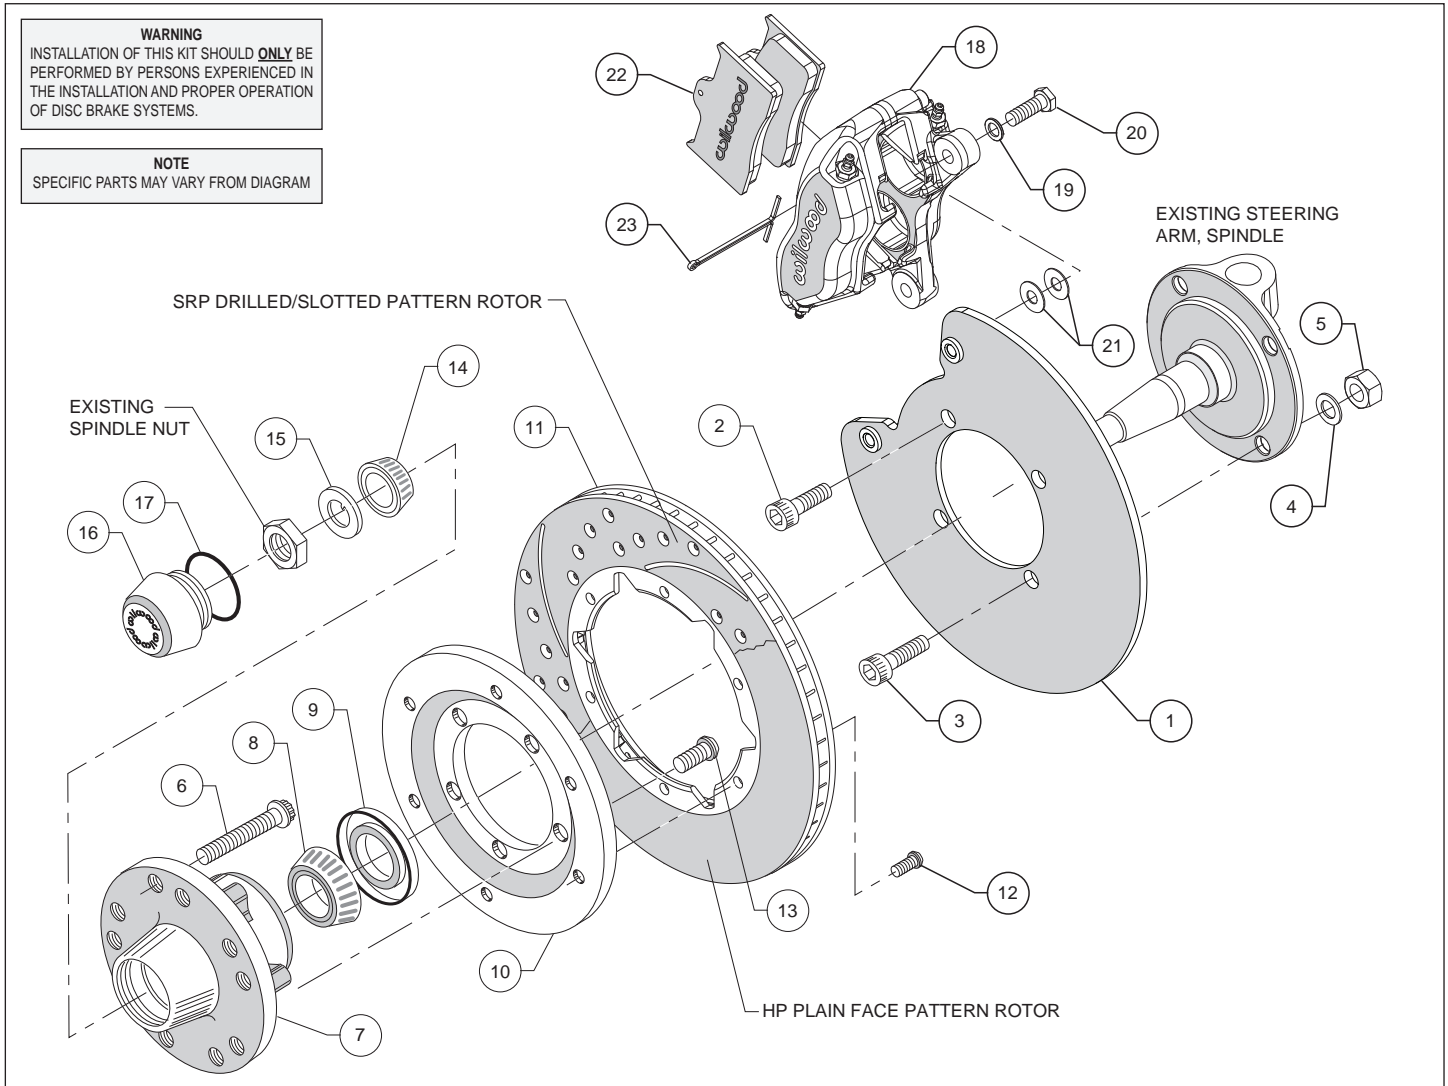
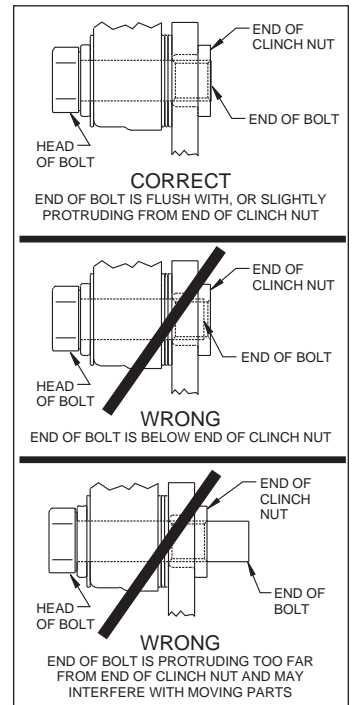

Figure 1. Typical Installation Configuration
Figure 3. Clinch Nut Engagement Diagram
Assembly Instructions (numbers in parenthesis refer to the parts list, on the preceding page and Figure 1): **CAUTION:** All mounting bolts must fully engage clinch nuts. Be sure to check that all bolts are either flush or protruding through flanged side of clinch nut after shimming, Figure 3.
- Align caliper mounting bracket/dust plate (1) with the corresponding holes, to the face of the spindle. Attach using bolts (2 and 3), washers (4), and nuts (5), as shown in Figure 1 and Photo 1. Temporarily tighten the mounting bolts. Ensure that the flanged heads of the clinch nuts in the bracket are facing outboard, Photo 1. **NOTE:** The bracket must fit squarely against the mounting points on the spindle. Inspect for interference from casting irregularities, machining ridges, burrs, etc. Remove bolts one at a time, apply red *Loctite*® 271 to threads and torque to 77 ft-lbs.
- Orient the rotor (11) and the rotor adapter (10) as shown in Figure 1 and Photo 4. Attach the rotor to the adapter using bolts (12). Using an alternating sequence, apply red *Loctite*® 271 to the threads, and torque to 25 ft-lb.
- Mount the adapter/rotor assembly (10/11) to the hub (7) using bolts (13), as shown in Figure 1 and Photo 5. Using an alternating sequence, apply red *Loctite*® 271 to the threads, and torque to 55 ft-lb.
- NOTE:** Please reference the caution statement at the beginning of the assembly instructions. Mount the caliper (18) onto the caliper mounting bracket (1) using bolts (20) and washers (19), as shown in Figure 1. Initially place two .035" thick shims (21) on each bolt between the caliper and the bracket, Photo 8. Temporarily tighten the mounting bolts and view the rotor (11) through the top opening of the caliper. The rotor should be centered in the caliper, Photo 9. If not, adjust by adding or subtracting shims between the bracket and the caliper. Always use the same amount of shims on each of the two mounting bolts. **NOTE:** The end of each bolt must be flush with or slightly protruding from the head of the clinch nut, as shown in Figure 3. If necessary place spare shims between washer (19) and caliper mounting ear to achieve the proper clinch nut engagement. Once the caliper alignment and clinch nut engagement are correct, remove the bolts one at a time, apply red *Loctite*® 271 to bolt threads, and torque to 40 ft-lb..